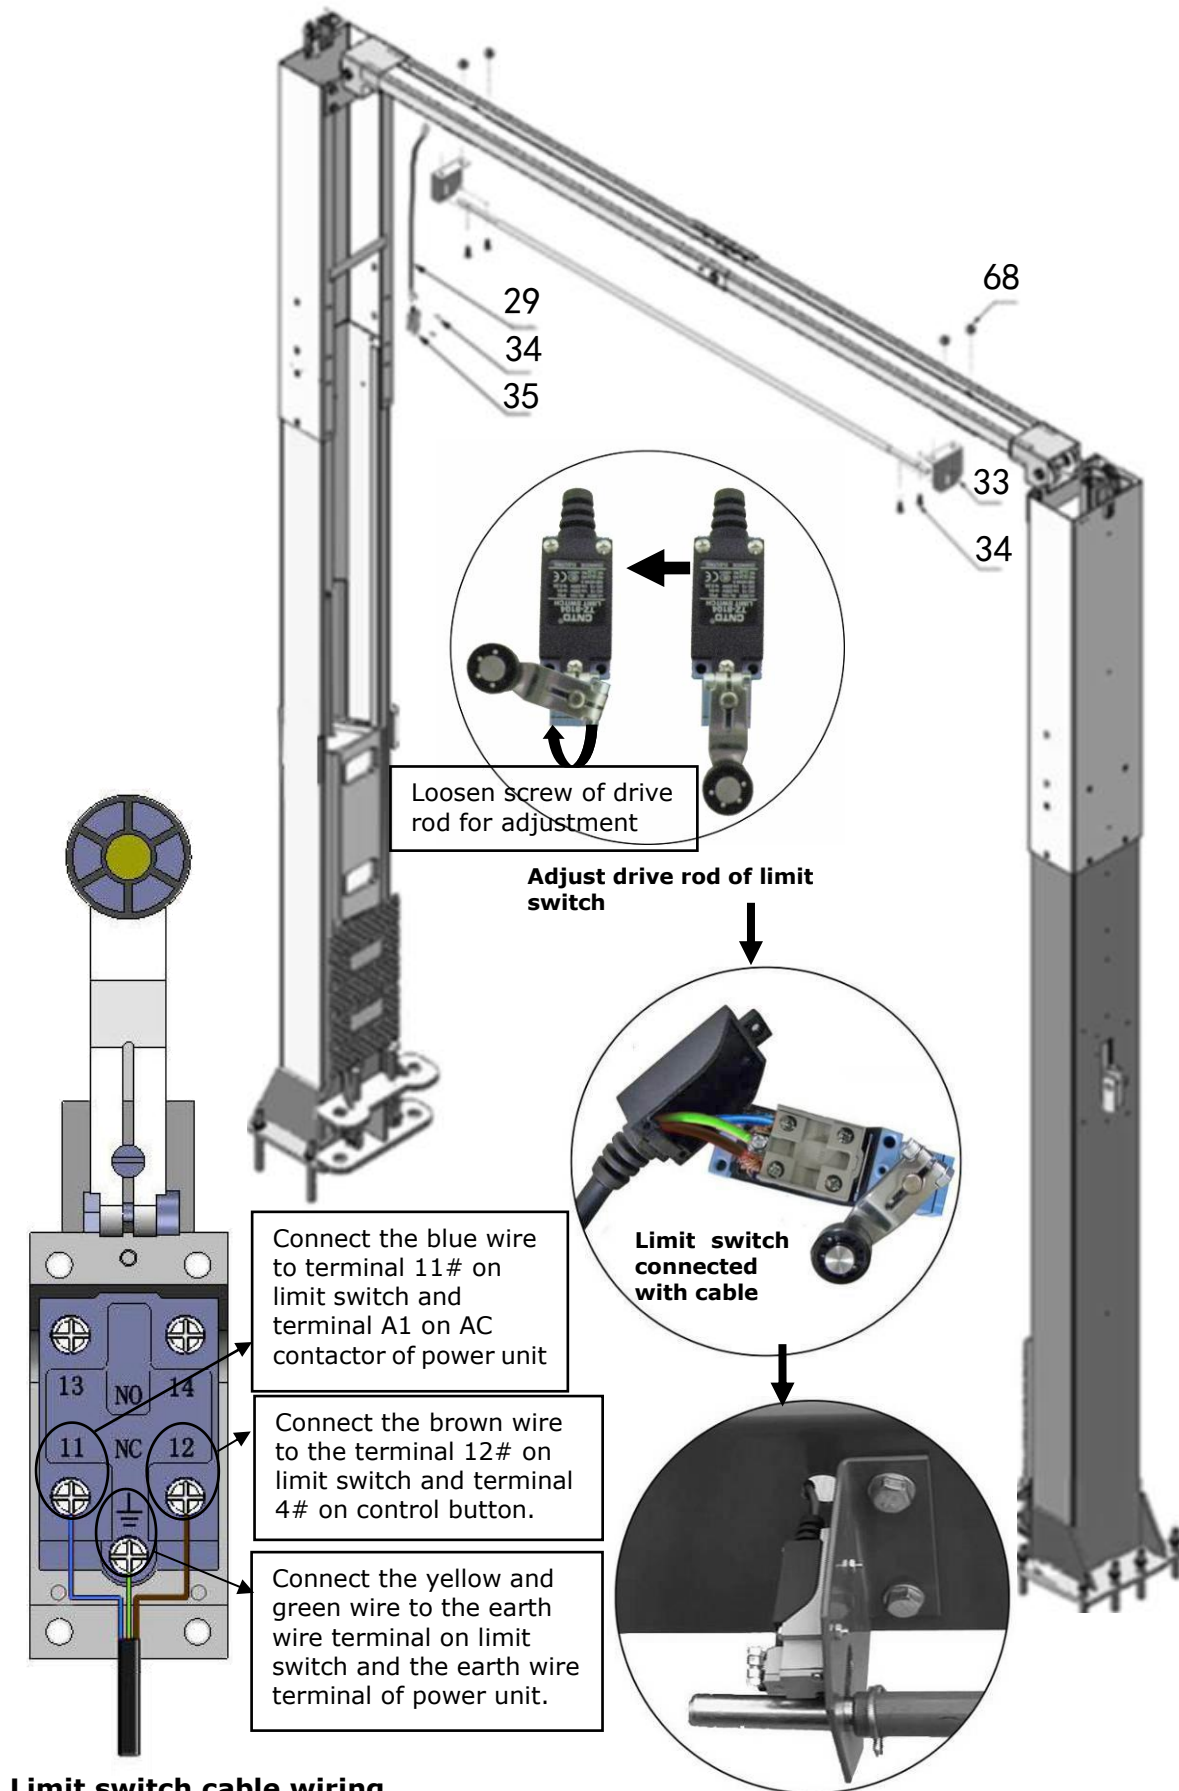

Fig. 25
I. Installing the limit switch control bar and limit switch (See Fig. 25).